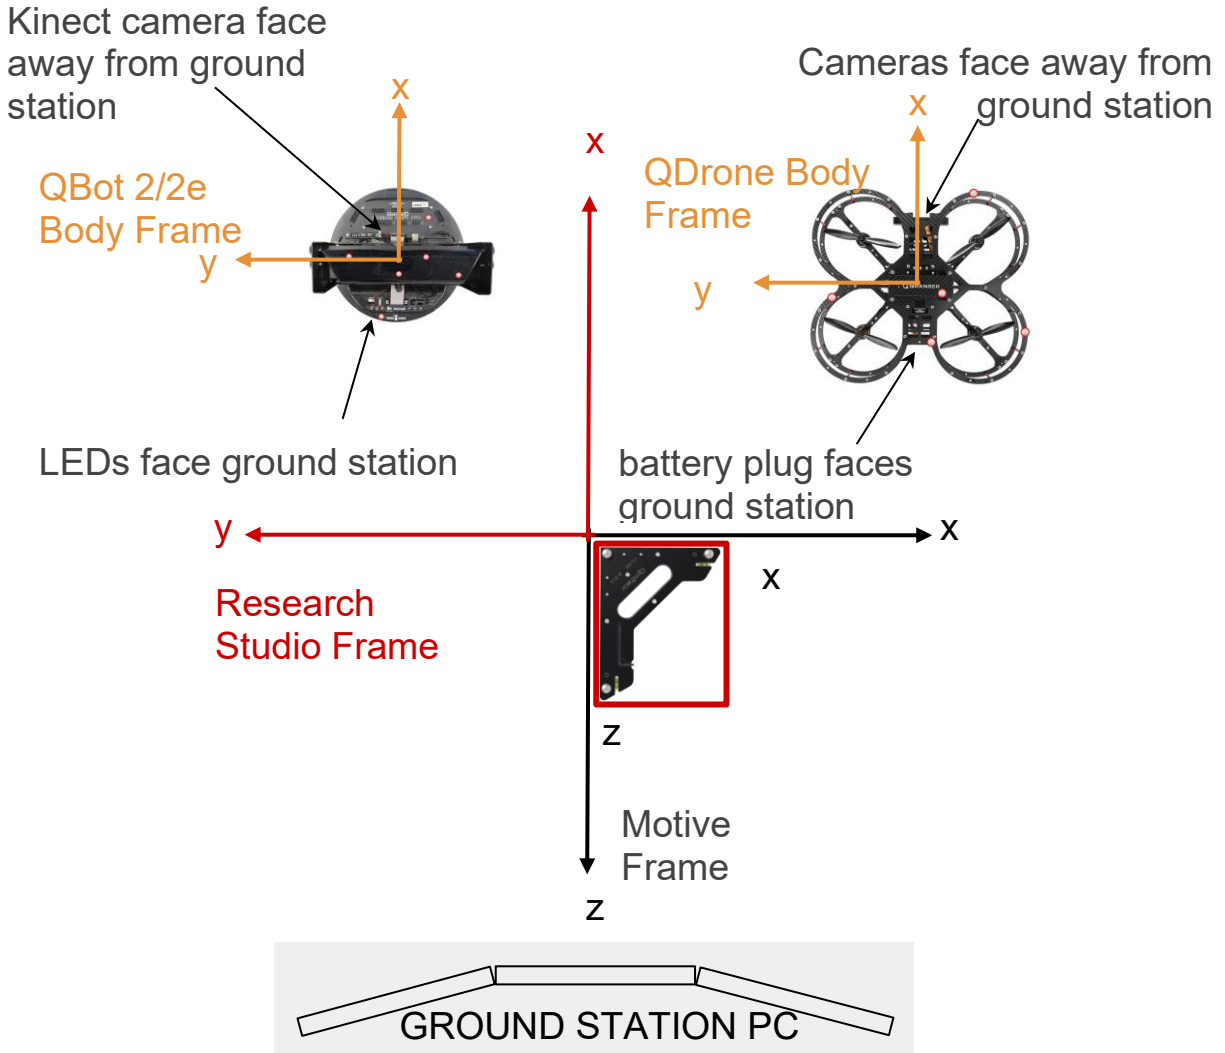

Figure 1. Vehicle placement orientation in workspace when defining rigid bodies in Motive
Note: When a vehicle's rigid body is defined in Motive, it identifies the vehicle's yaw reading as 0 the way it is placed. Ensure that you place the QDrone 1/2/QBot 2 in the workspace oriented as shown in Figure 1 when defining the rigid bodies. This means **always ensuring the vehicle's camera is pointed away from the ground control station PC**. This will provide consistency in measurement throughout the demo models and controllers provided with the **Autonomous Vehicles Research Studio**.
2. Place the vehicle in the workspace according to the frame guidelines in Figure 1 (Camera of the vehicle towards the back of the room away from the ground station PC). Motive should display the markers picked up by the cameras in the **Perspective View**, (Figure 3).